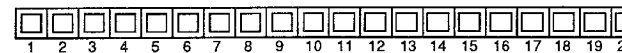

figure 4 Notice that there is two-way communication between the Computer and the Tone Module. (3 goes to 4, 4 goes to 3)
- (1)The Sequencer/Computer sends MIDI to two of the Tone Modules, the Keyboard Synthesizer and the Drum Machine.
- (2)One of the tone modules can send its data back to Sequencer/Computer.
- (3)The Keyboard Synthesizer controls one of the tone modules.
- (4)The drum machine fires the remaining tone module. The solution is shown in figure 4.